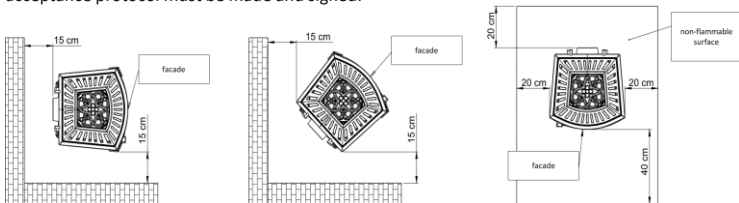

Fig. 3. Safe distances of the stove from non-flammable parts.
- the stove must be placed on the nonflammable surface extending for min. 0,4 m from the stove and min 0,2 m measuring from the sides and the back of the stove (See Fig 3),
- the recommended distance from NON-FLAMMABLE parts is not less than 15 cm (Fig. 3)